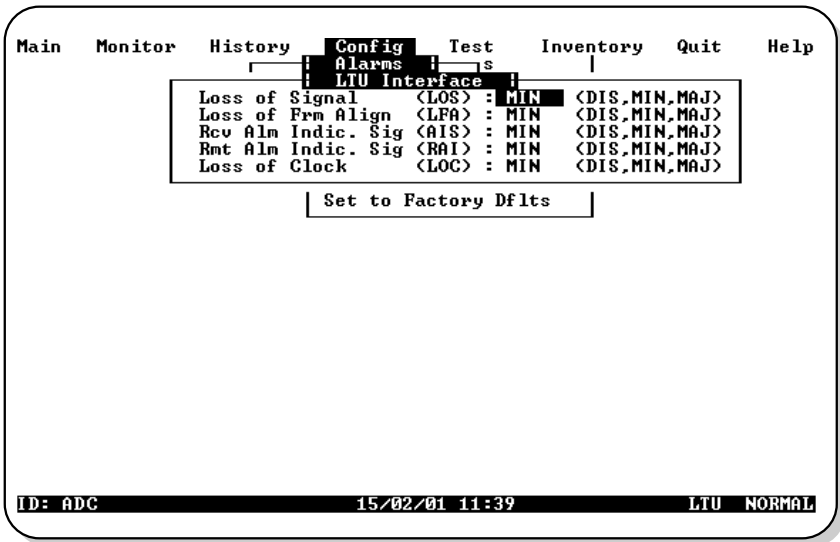
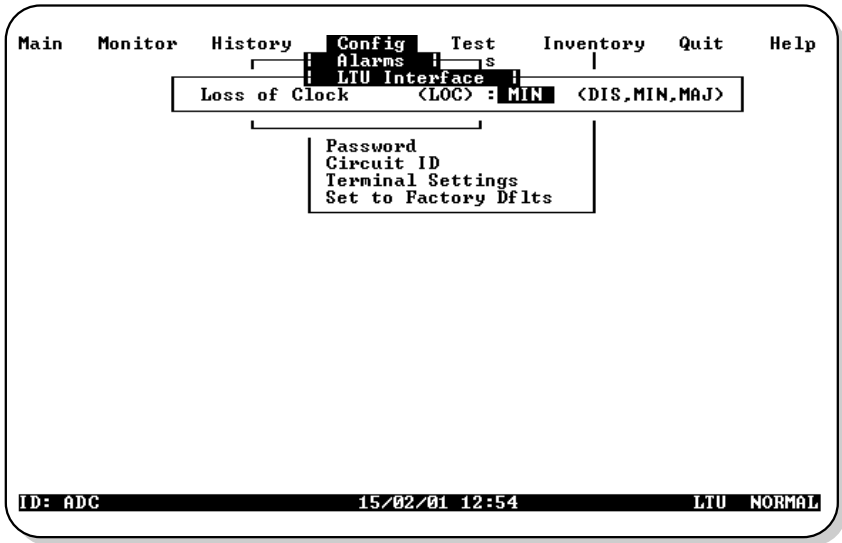

Figure 18. UTU-731 Config Alarms LTU Interface Menu
Figure 19. UTU-732 Config Alarms LTU Interface Menu
- **L** for the Config Alarms LTU Interface menu (UTU-731 in Figure 18 below or UTU-732 in Figure 19 on page 35).